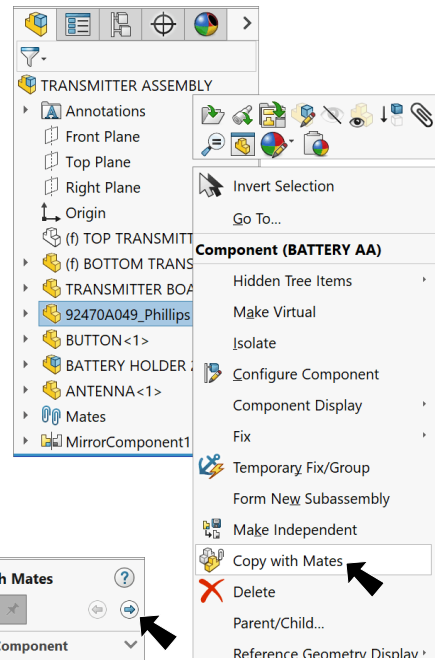

Fig. 45
Step 1. **Right click Screw part** in the Feature Manager and click **Copy with Mates** from menu, **Fig. 45**.